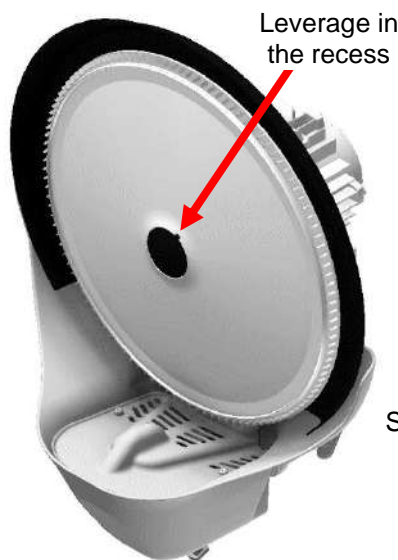

Fig. 4.4.1
- Remove the central cap of the rotating disc by prying into the recess with a small slotted screwdriver (Fig. 4.4.1)